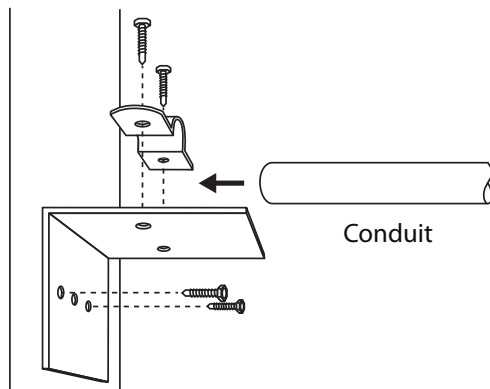

Fig. 6. Mount L-bracket and Tubing.
2. Use self-tapping screws to attach L-brackets to the air handler wall or supporting structure. Then use the 1/2 inch pipe clamps to attach the tubing sections to the L-Brackets. (Fig. 6.)